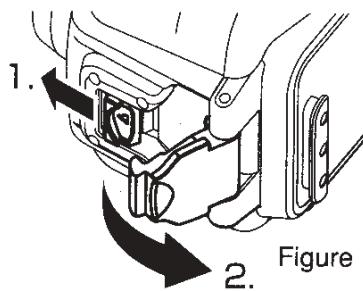

Figure 1
2. Push the rear door lock lever on the side of the housing to the direction shown in Figure 1 to release the slide lock. Then raise this lever to open the rear door.